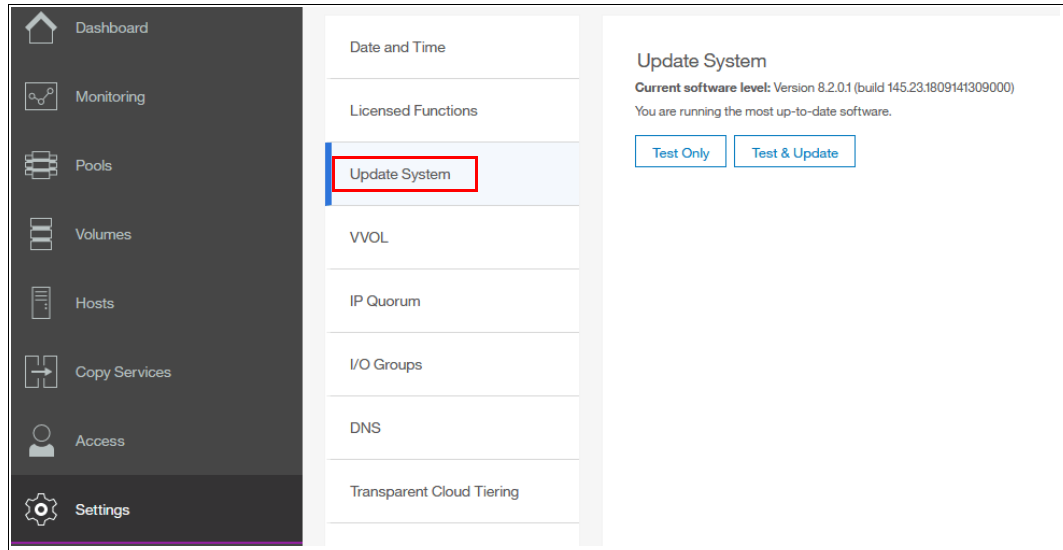

Figure 7-48 Update System window
- In the **System** menu, click **Update System**. The Update System window opens (Figure 7-48).